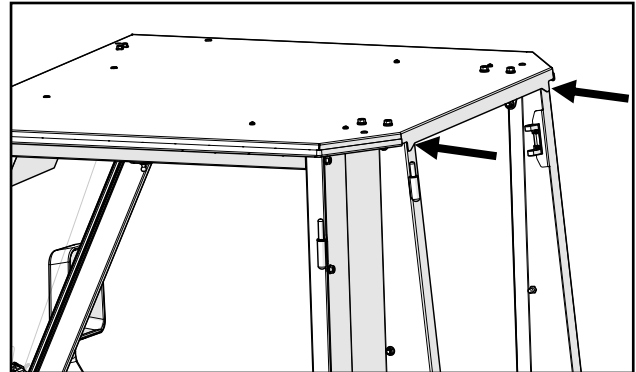

Fig. 4.2 (Positioning Roof against Rear Legs)
- 4.2 Once the roof is resting on the side frames, push the roof forward so the inside of the roof's rear flange is tight up against the outboard surface of the rear legs, then center roof side to side. See Figure 4.2.